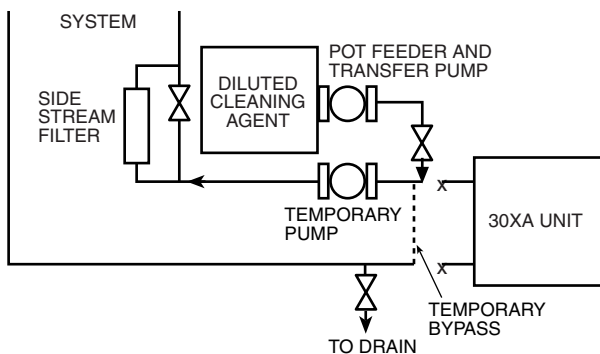

Fig. 58 — Cleaning Using a Side Stream Filter
- A side stream filter is recommended (Fig. 58) during the cleaning process. Filter side flow rate should be enough to filter the entire water volume every 3 to 4 hours. Change filters as often as necessary during the cleaning process.